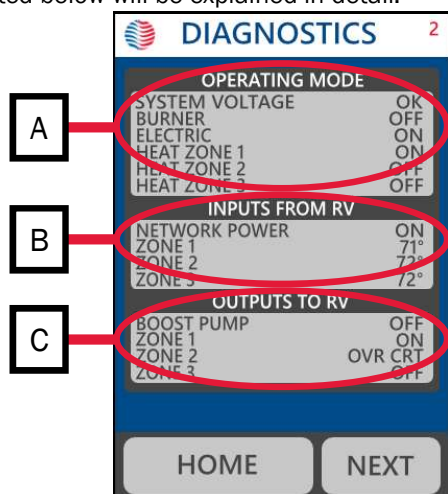

Figure 18
- 71°: This indicates the set-point of the RV thermostats. The example in Figure 18 is showing the RV thermostat is requesting it be 71° F in Zone 1. This is only available with certain RV thermostats.
In the example in Figure 18, the controller is not sending power to the boost pump, so the boost pump is shown as OFF.